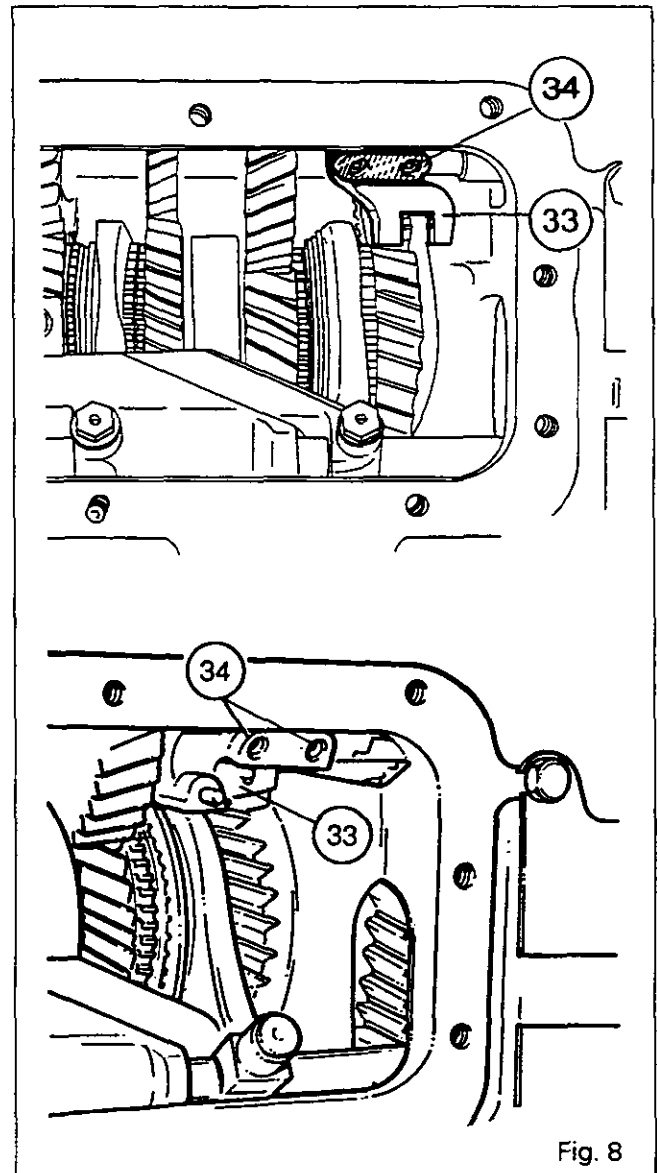

Fig. 8
8. Remove the screws (34). Remove the reverse selector (33) (Fig. 8) and the input unit (Section 5B01).
9. Remove the plug (29), the spring (28) and the locking pin (27). Take out the screws (32). Remove the selector rail (31) and the fork (30).